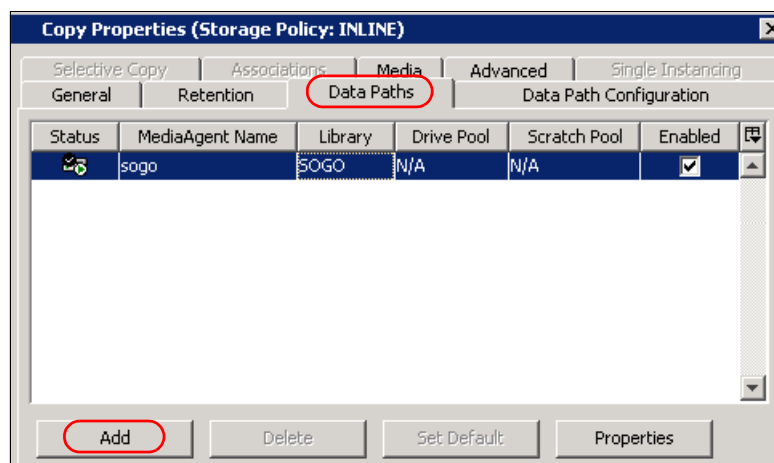

Figure 18-17 Adding new data paths²
3. Select **Properties**. Additional data paths for the primary copy can be defined on the Data Paths tab of the Copy Properties dialog box (Figure 18-17).²